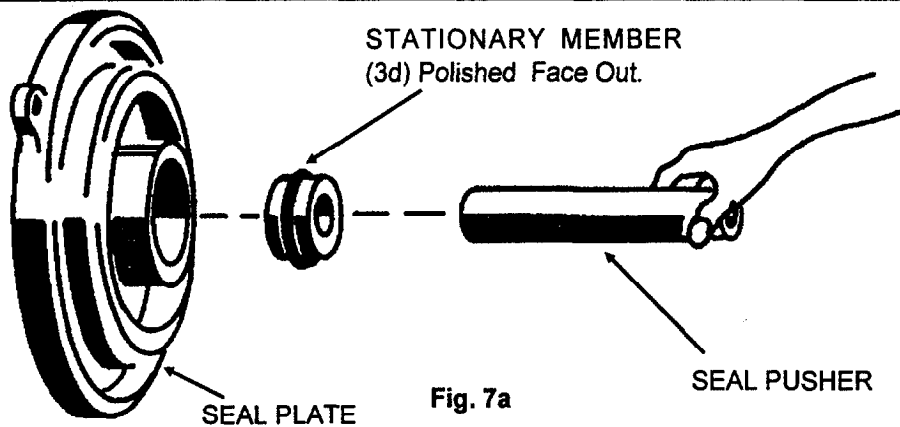

Fig. 7a
When replacing the shaft seal (3), remove used rotating member (3c), spring (3b), and spring retainer (3a) from motor shaft. Press used stationary member (3d) from the seal plate (2). At reassembly, clean seal cavity thoroughly and apply a light coat of oil. Lightly oil the rubber ring (**DO NOT** use grease) and press the stationary member firmly into the seal plate using a seal pusher (See Parts List- Seal Tool Kit), nothing but pusher to come in contact with seal face (see Fig. 7a).